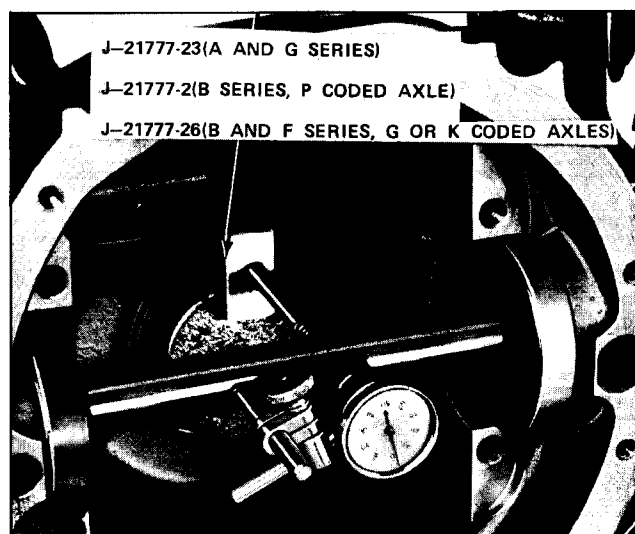

Fig. 4C-15 Pinion Setting Gage Assembly Installed
9. All drive pinions are stamped with a code number on the rear I.D. of the pinion gear (Fig. 4C-16). The code number in the chart below indicates the amount to be added or subtracted from gauge reading obtained in step 8.